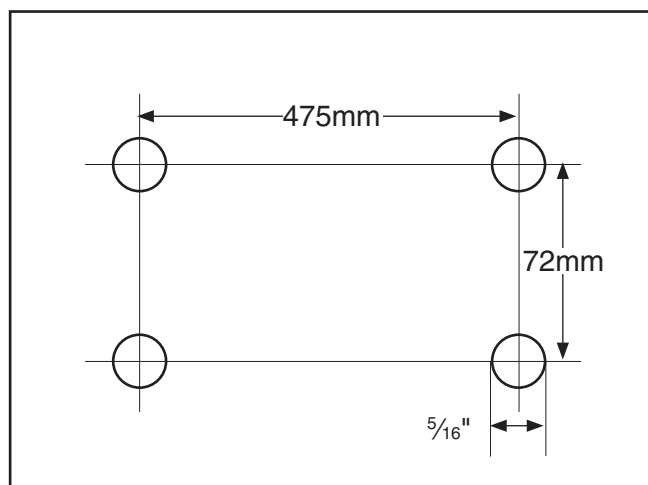

Figure 7. G8688 drill pattern.
2. Use the diagram shown in **Figure 7** as a drill pattern to drill your holes into your workbench.